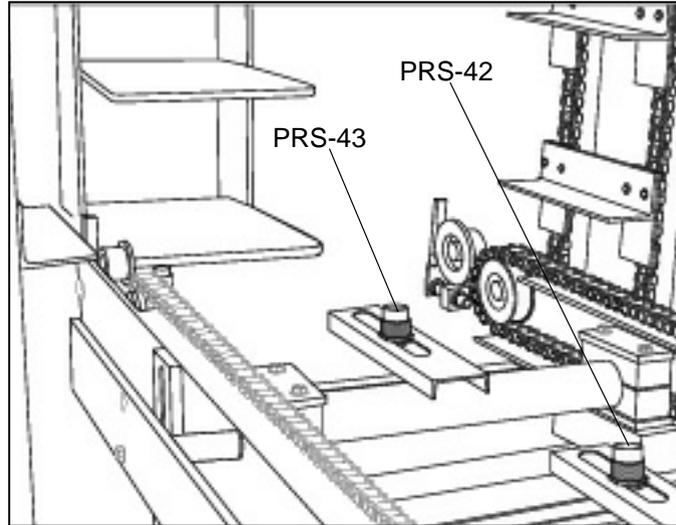

Figure 2.17 PRS-42 AND PRS-43.
- 2.2.2.2** Adjust PRS-42 (figure 2.17) so that pallet is clear of Accumulator conveyor when switch is tripped and released, if PRS-43 is not covered.
- 2.2.2.3** Adjust PRS-43 (figure 2.17) 1/4" [6.3mm] below pallet sitting on chain. PRS-43 is a safety switch. If PRS-43 is tripped, Accumulator will not move.